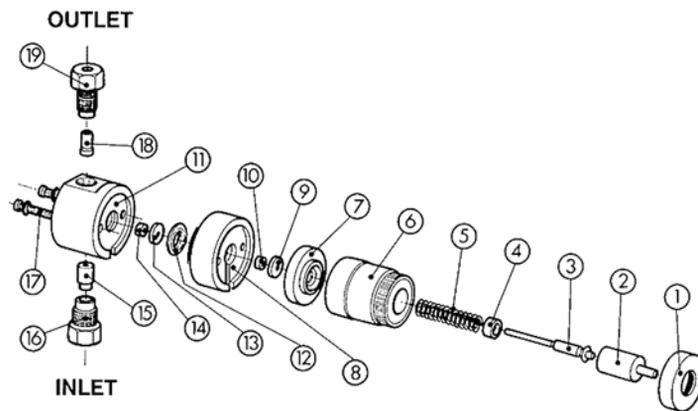

Figure 20 Washing head (exploded view)
- 5 Remove seal insertion tools and reassemble the pump head following Figure 20 on page 83 and the ink mark which was placed on the pump head body before disassembly (see "Removing seals 200 mL/min Head" on page 85).